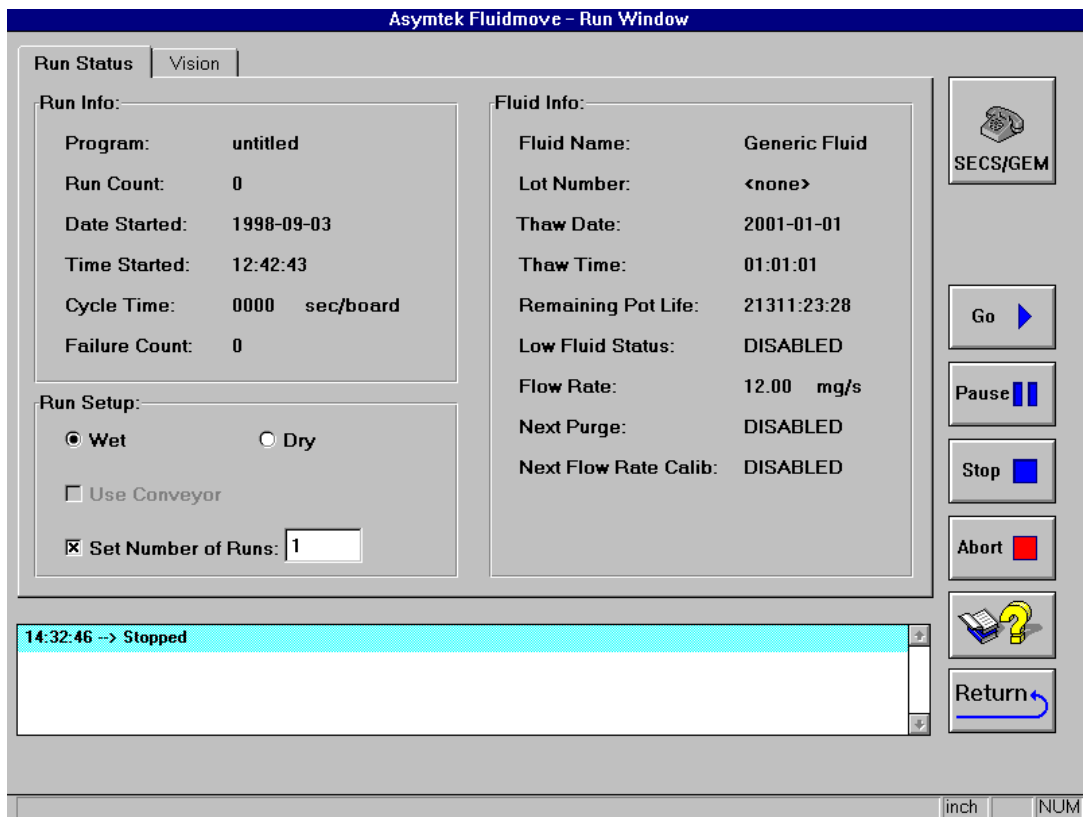

Figure 10-1
Before the run begins, the Run Window opens. See Figure 10-1. In the Run Window, the Operator has information on the run status, fluid status, error status and SECS/GEM status. The Operator has full control of the run using on-screen controls in the Run Window. Also, you can choose to perform a wet run, with dispensing, or a dry run with no dispensing. The conveyor can be disabled for dispense tests, and a set number of runs to be performed can also be indicated.
- ▶ The **Run Window** opens. See Figure 10-1.